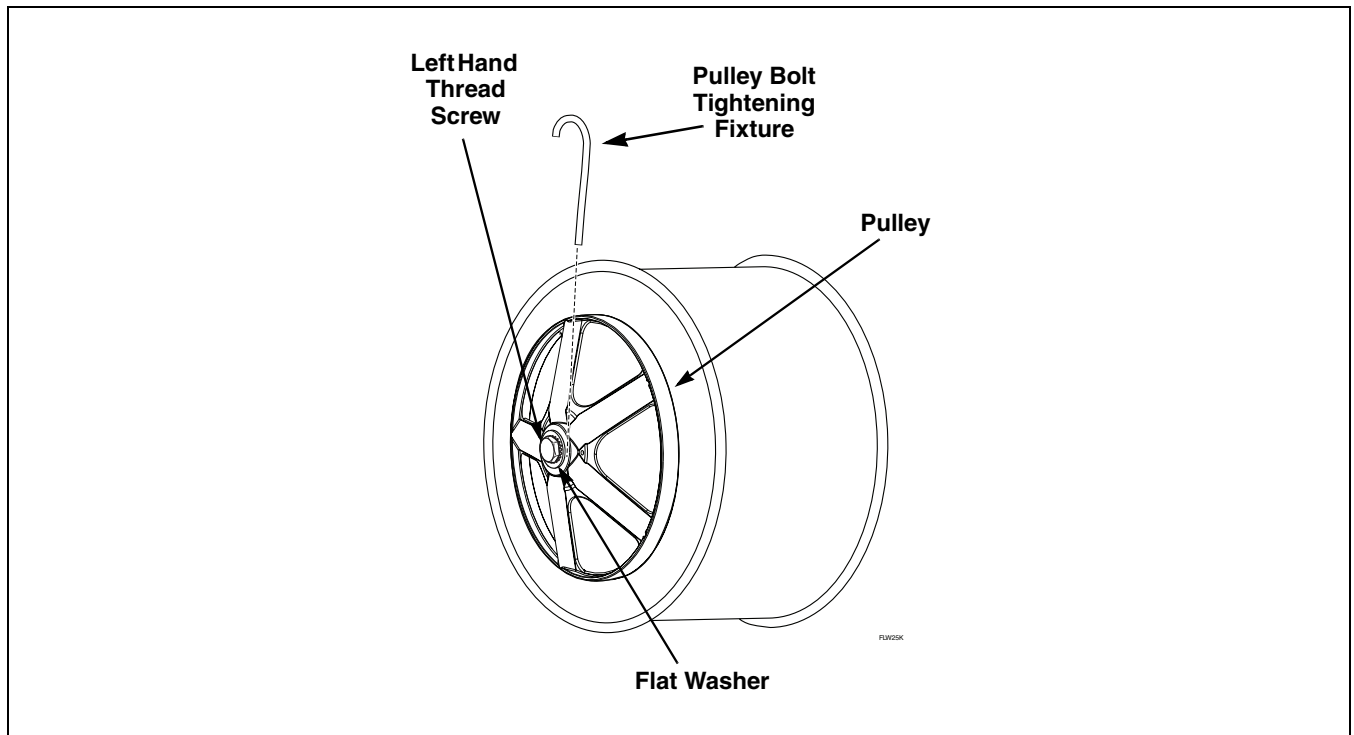

Figure 43
- f. Install pulley bolt tightening fixture between the flat washer and the pulley. Refer to *Figure 43*.